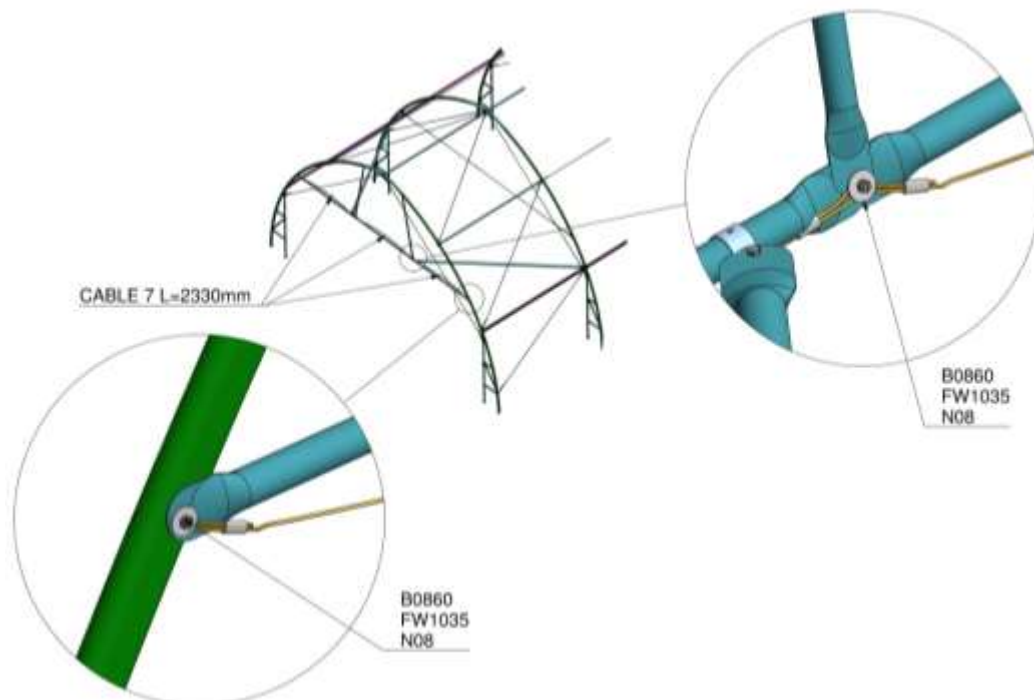

Figure 23: Reinforcements for plant support system
4. Add three cables (#7) to the horizontal pipe on the first arc (Figure 23).